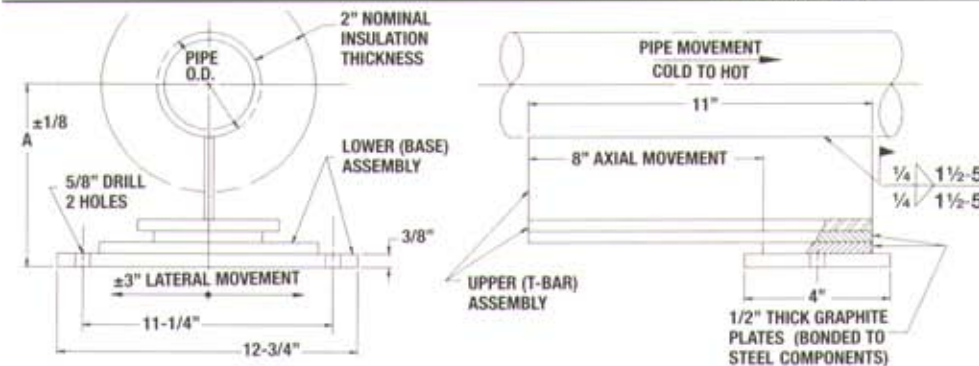

Fig. 200-B
1. See Page 2 for general information pertaining to Figure 100 and Figure 200 Pipe Guides and Supports.